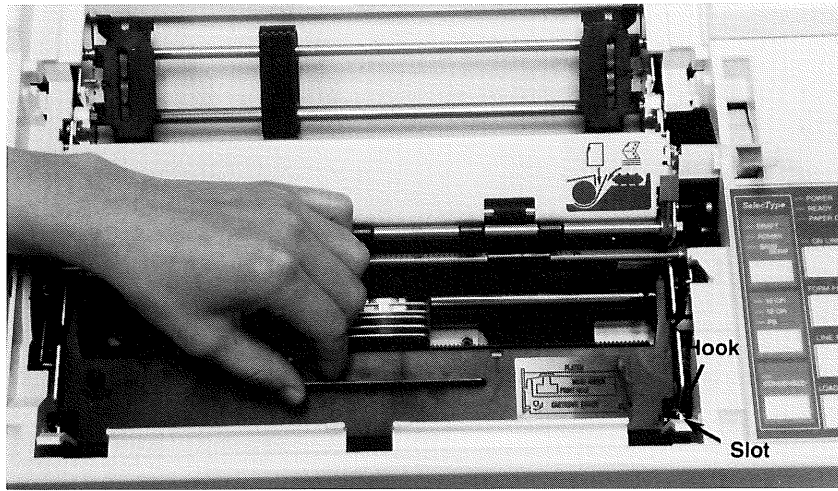

Figure B3.
5. Hold the ribbon cartridge by the plastic fin and lower it into the printer. Place the hooks on each end of the cartridge into the slots in the printer. Push down on both ends of the ribbon cassette until it snaps into place. See Figure B3.